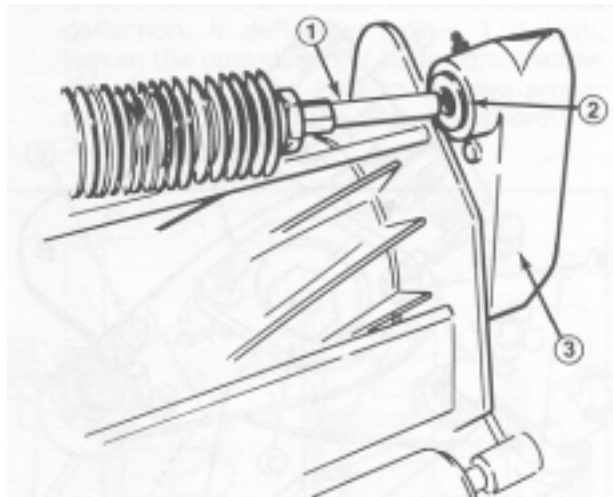
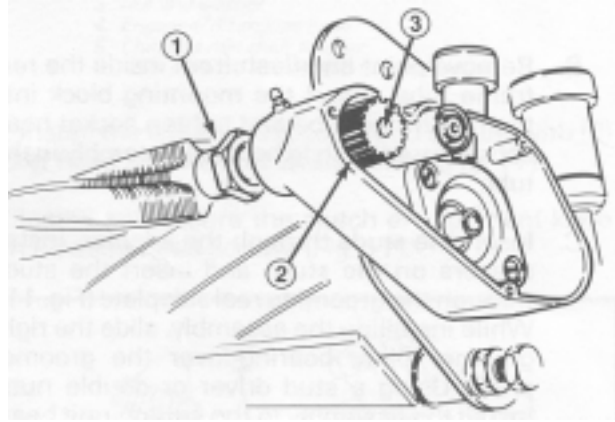

Figure 9
Figure 10
10. Slide the grooming shaft assembly into the bearing support in the left belt housing (Fig. 9). Using a 3/8” allen socket and torque wrench, install the driven pulley (left–hand thread) and torque to 29–32 ft–lb (Fig. 10).